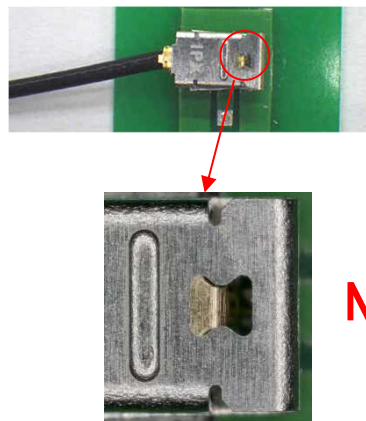

Fig.6-3 Half lock state
- In the state of Fig. 6-3 , the connector fitting holding force decrease.